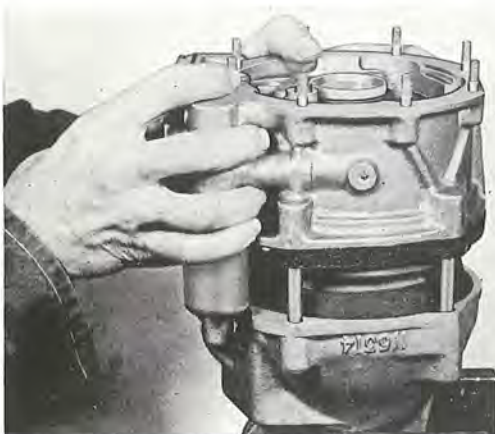

Fig. 4-47. Dismantling the overdrive
3. Unscrew the nuts holding the brake ring, front and rear casing. Loosen the nuts successively all round in order to avoid any distortion from the springs. Lift off the front casing and brake ring, see Fig. 4-47.